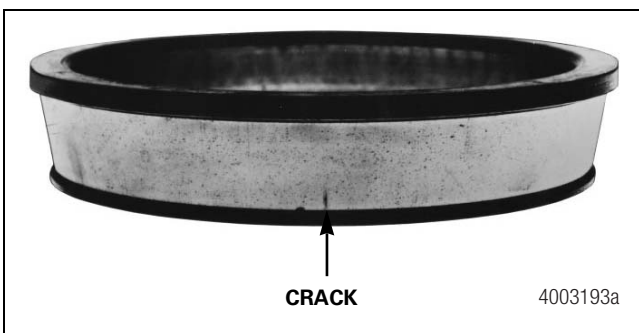

Figure 4.20
L. The races or rollers are cracked. Figure 4.20.